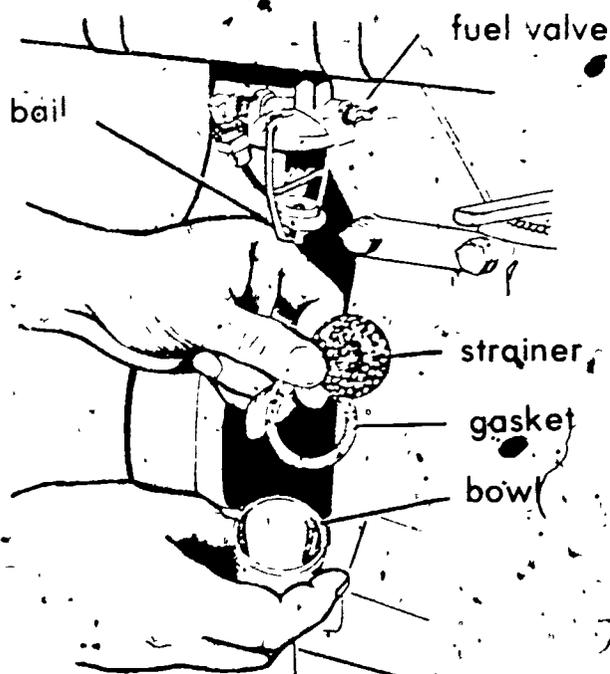

FIGURE 1
- C. Loosen jam nut and swing the wire bail to one side (Figure 1)
- D. Remove bowl with a twisting motion (Figure 1)
- E. Remove gasket (Figure 1)
- F. Remove strainer (filter) screen (Figure 1)